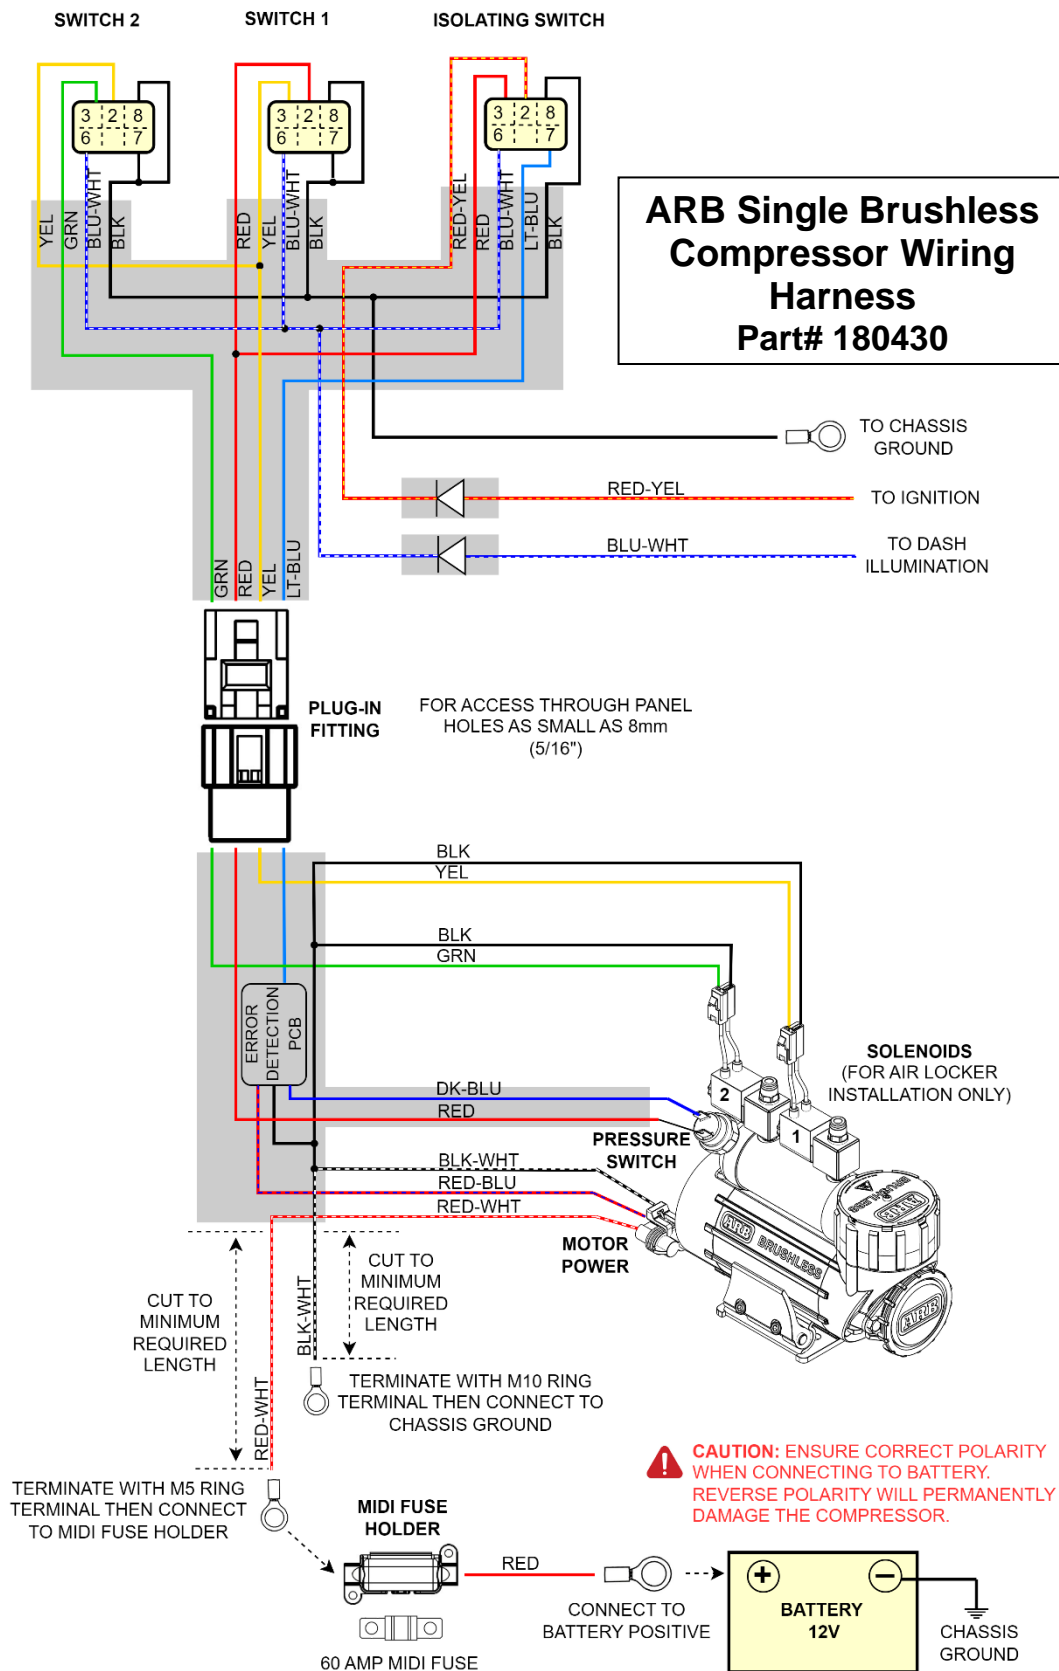
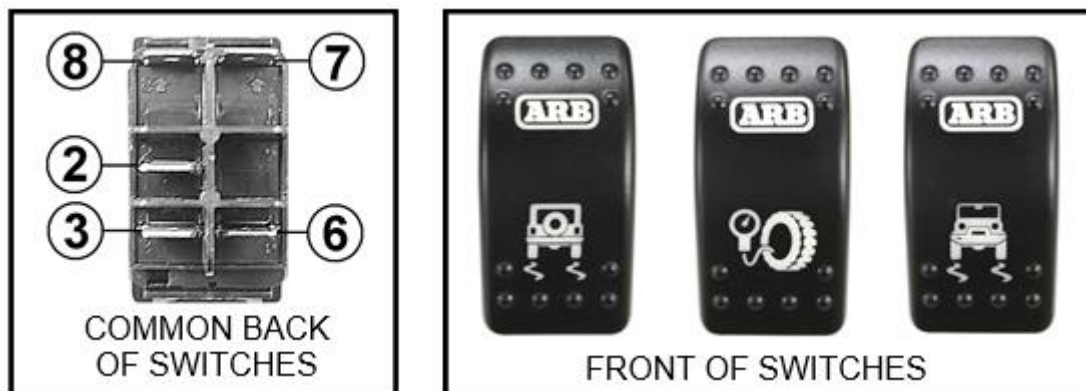

Figure 15. CKBLA12 Air Compressor wiring diagram (180430)
Figure 16. Switch terminal designations
- ☐ Consulting the wiring diagram (Figure 15) for wire colours, and the switch terminal illustration (Figure 16), plug each of the female spade terminals onto their appropriate switch terminal.